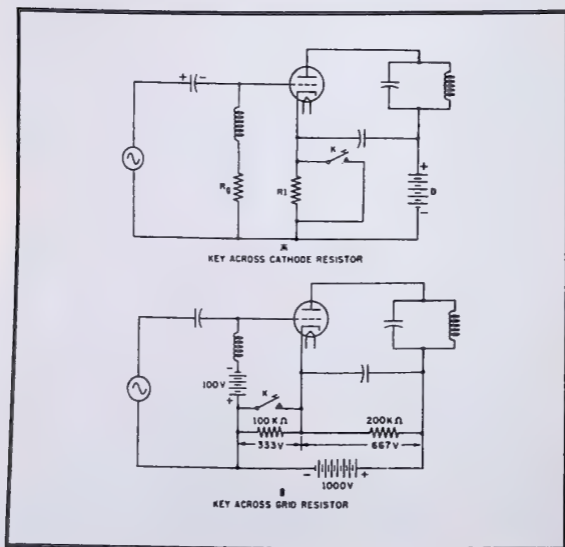

Fig. 4-3. Two methods of blocked-grid keying.
**Blocked Grid Keying.** Two methods of blocked grid keying are shown in Fig. 4-3. The key in Fig. 4-3A shorts cathode resistor  $R_1$ , allowing normal plate current to flow. With the key open, reduced plate current flows up through resistor  $R_1$ , making the end connected to grid resistor  $R_g$  negative. If the value of  $R_1$  is high enough, the bias developed is sufficient to cause cutoff of plate current. Depressing the key short circuits  $R_1$ , thus increasing the bias above cutoff and allowing the normal flow of plate current. Grid resistor  $R_g$  is the usual grid leak resistor for normal bias. This method of keying is applied to the buffer stage in a transmitter.